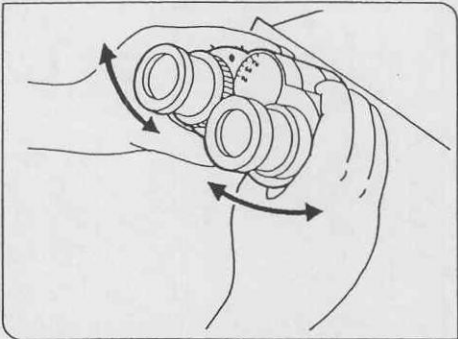

Fig. 44
Adsorption of immersion oil can cause the specimen to float. In such cases, it is recommended to use the optional specimen clip (BH2-SCB-3) for oil immersion objectives ③. (Fig. 44)
1 Interpupillary Distance Adjustment (Fig. 44)